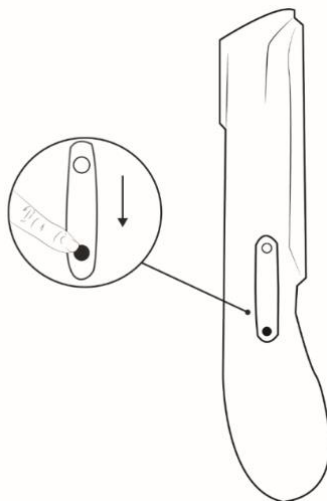

Figure 6: Rocker Switch in Fluorescence Imaging Mode (in ‘down’ position)
1. Toggle the Rocker Switch to its “down” position (Figure 6).